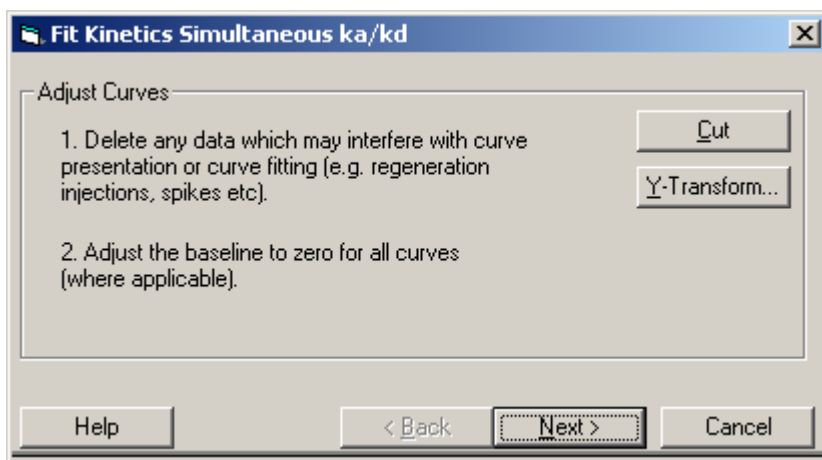

Figure 6.9
- 6.25 'Fit Kinetics, simultaneous  $k_a/k_d$ ' window (Fig 6.9) will open.
- 6.26 Click on 'Next' (Fig 6.9).